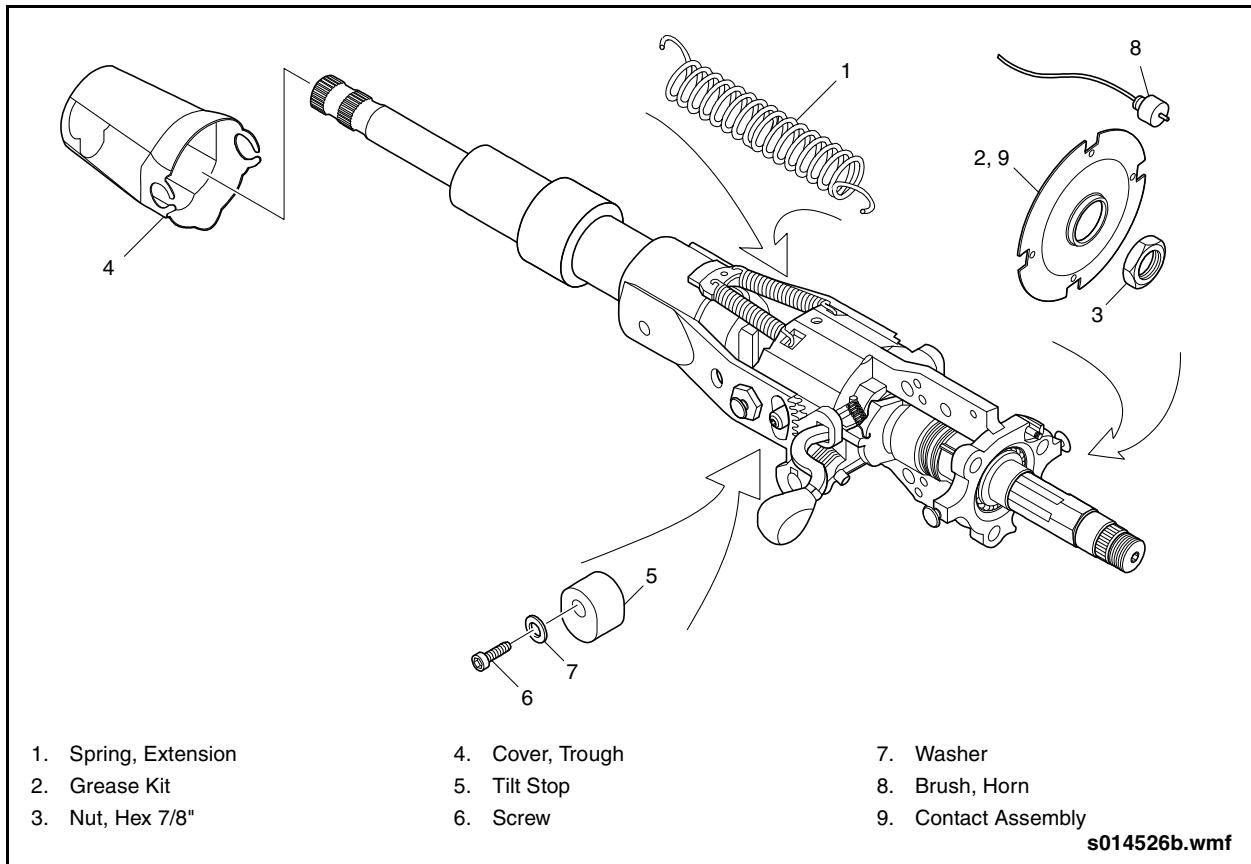

Fig. 3-12: Trough Cover Replacement
2. Slide trough cover off tilt bolts and remove from steering column. See "Fig. 3-12: Trough Cover Replacement" on page 21.